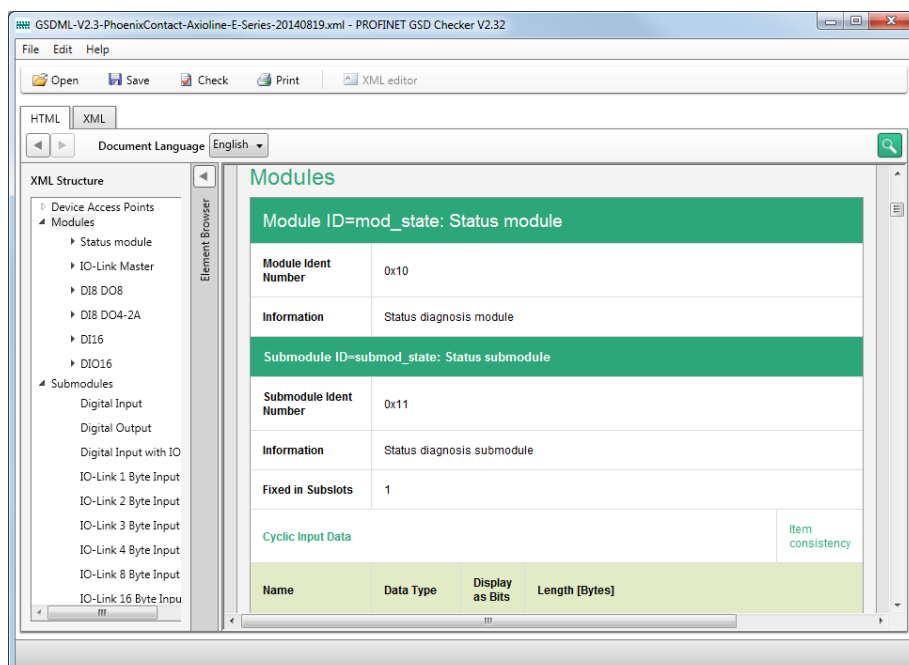

Figure 1-4: HTML representation in the GSD checker
- Displaying the contents of GSD in a concise HTML representation (see Figure 1-4).